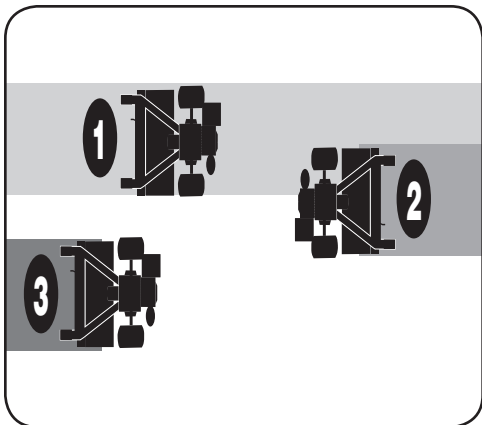

Figure 3-9
- If the garden size will not permit lengthwise and then crosswise tilling, overlap the first passes by one-half a tiller width, followed by successive passes at one-quarter width. See Figure 3-9.